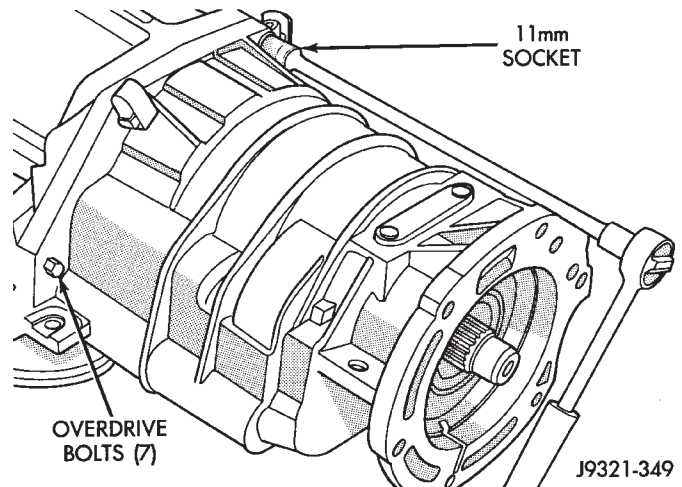

Fig. 2 Removing/Installing Overdrive Unit Attaching Bolts
- (5) Place transmission in upright position (Fig. 2).
- (6) Remove bolts attaching overdrive unit to transmission case (Fig. 2). An 11 mm socket is required. Note position of all wiring clips for installation reference.